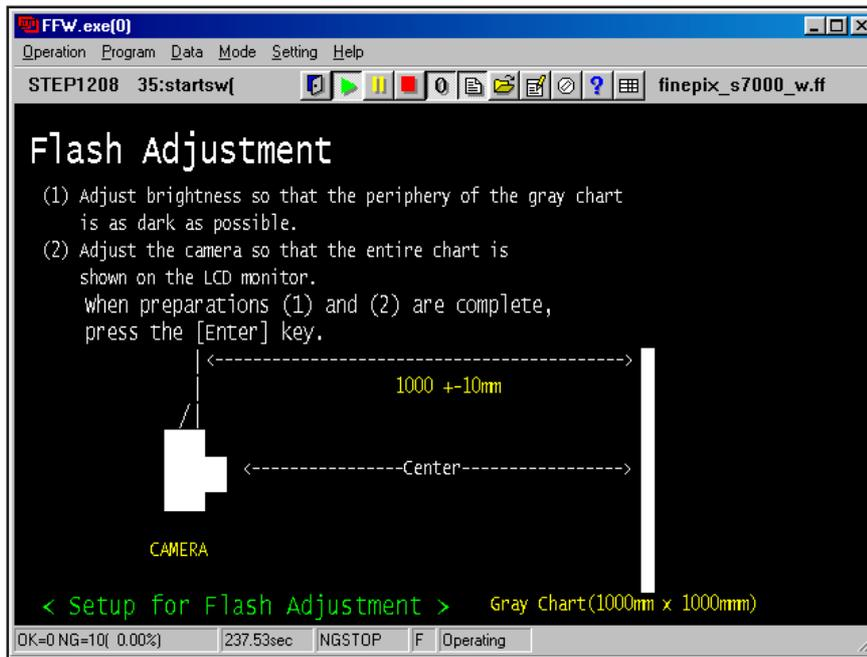

Fig.28
--->The [Flash Adjustment start Screen (Fig.28)] appears.